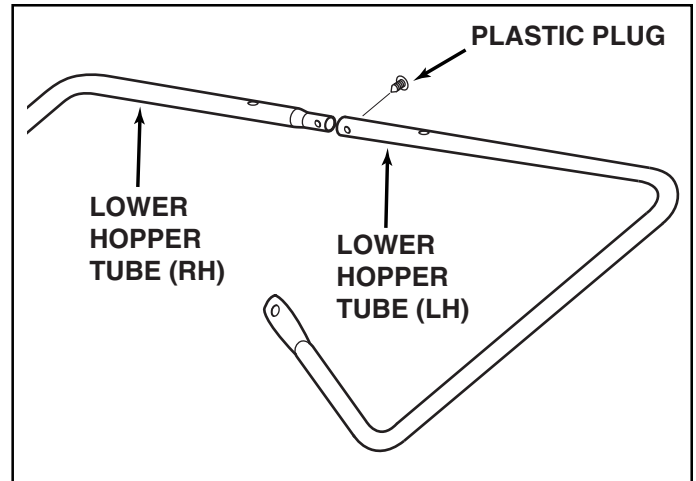

FIGURE 10
4. Fit the ends of the (RH) and (LH) lower hopper tubes together. Align the holes in the tubes and insert a plastic plug. See figure 10.